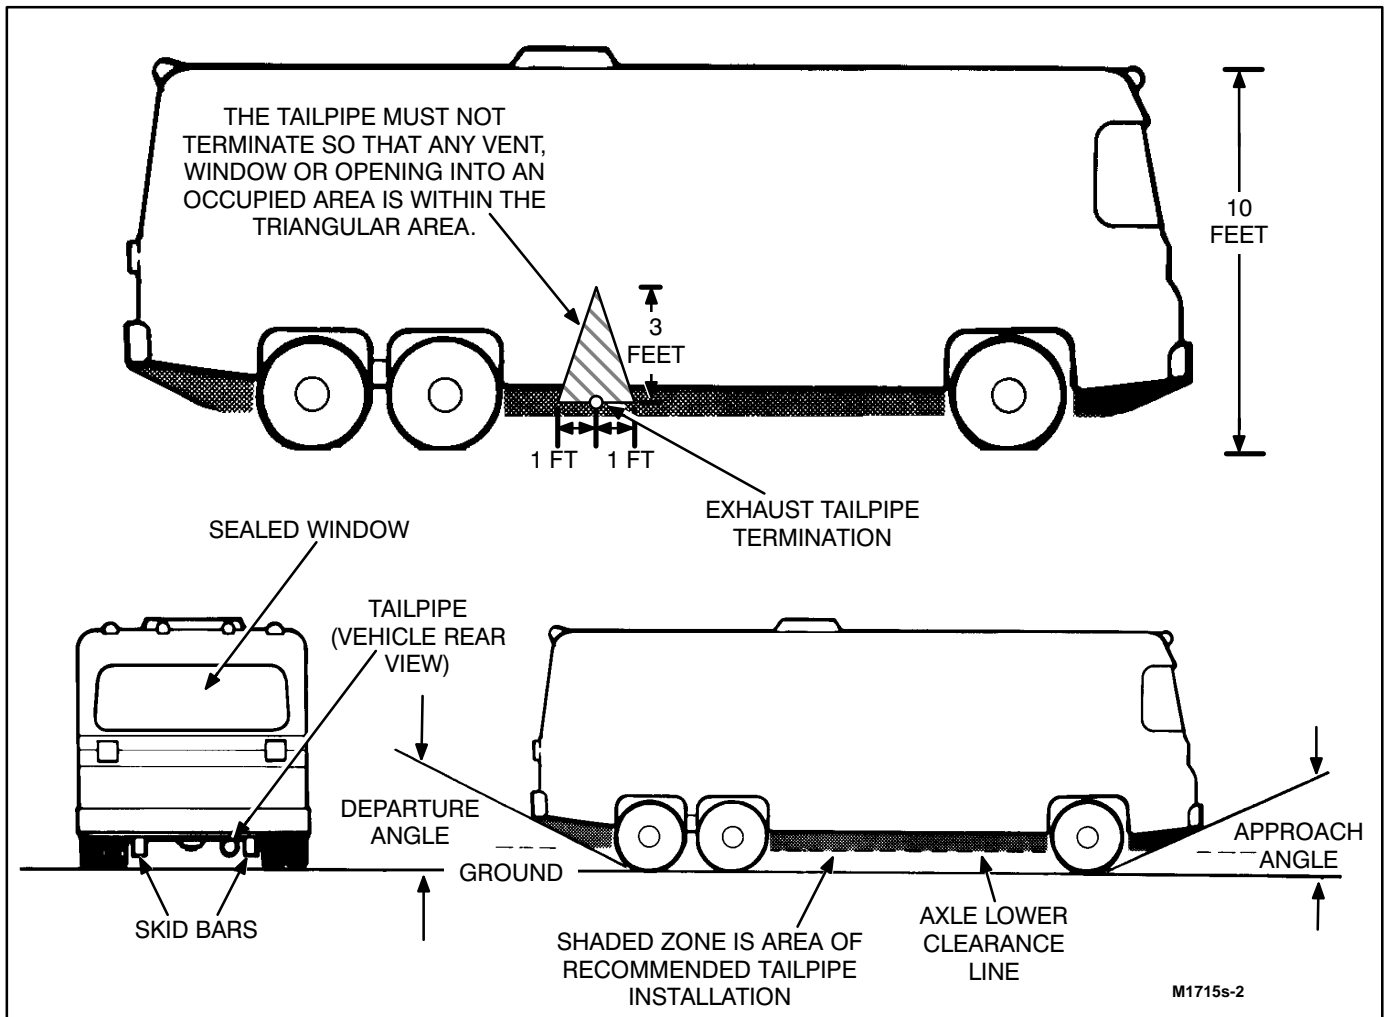

FIGURE 6-1. TAILPIPE INSTALLATION
The exhaust system must extend a minimum 1 inch (25 mm) beyond the perimeter of the vehicle. Do not terminate the exhaust tailpipe under the vehicle. Be aware that any vent, window, storage compartment or opening that can be opened and that is not permanently sealed from the vehicle living space or work space can be an avenue for carbon monoxide to enter the vehicle. The tailpipe must not terminate so that any vent, window, or opening into the living area (RV) or the work area (commercial vehicle) is within the triangular area shown in Figure 6-1. This area is defined as an isosceles triangle with a height of 3 feet measured from the center of the tailpipe termination and with a base of 2 feet measured one foot horizontally from the center of the pipe in either direction.
⚠️WARNING *Exhaust gas is deadly and presents the hazard of severe personal injury or death. Do not terminate an exhaust pipe under the vehicle. The tailpipe must not terminate so that any vent, window, or opening into the living area is within the triangular area shown in Figure 6-1. Keep all openings closed when the generator set is running.*
To reduce the chance of damaging the tailpipe and emitting exhaust gases under the vehicle, make certain that no part of the exhaust system intrudes into the departure angle or approach angle of the vehicle, unless it is protected by a skid bar or other protection device. The shaded areas in Figure 6-1 illustrate typical mounting locations.